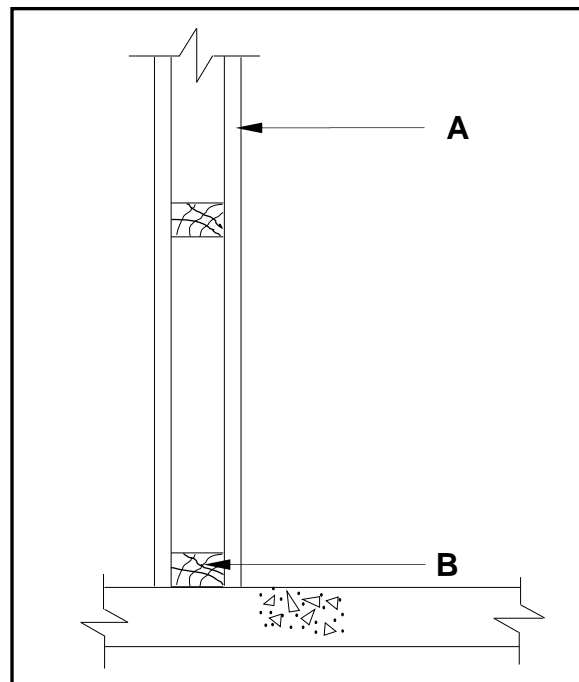

FIGURE 2.11
2.11 FIGURE 2.11 below illustrates an incomplete vertical sectional view through a dry wall. Study the sketch and answer the questions that follow.